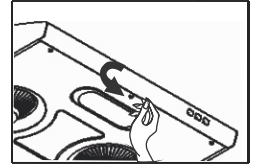

Fig.7-3
b. Screw on the screws which on the middle of bottom plate, push inner and draw down the nylon plate, then you can take apart the bottom plate. (fig. 7-3/7-4)